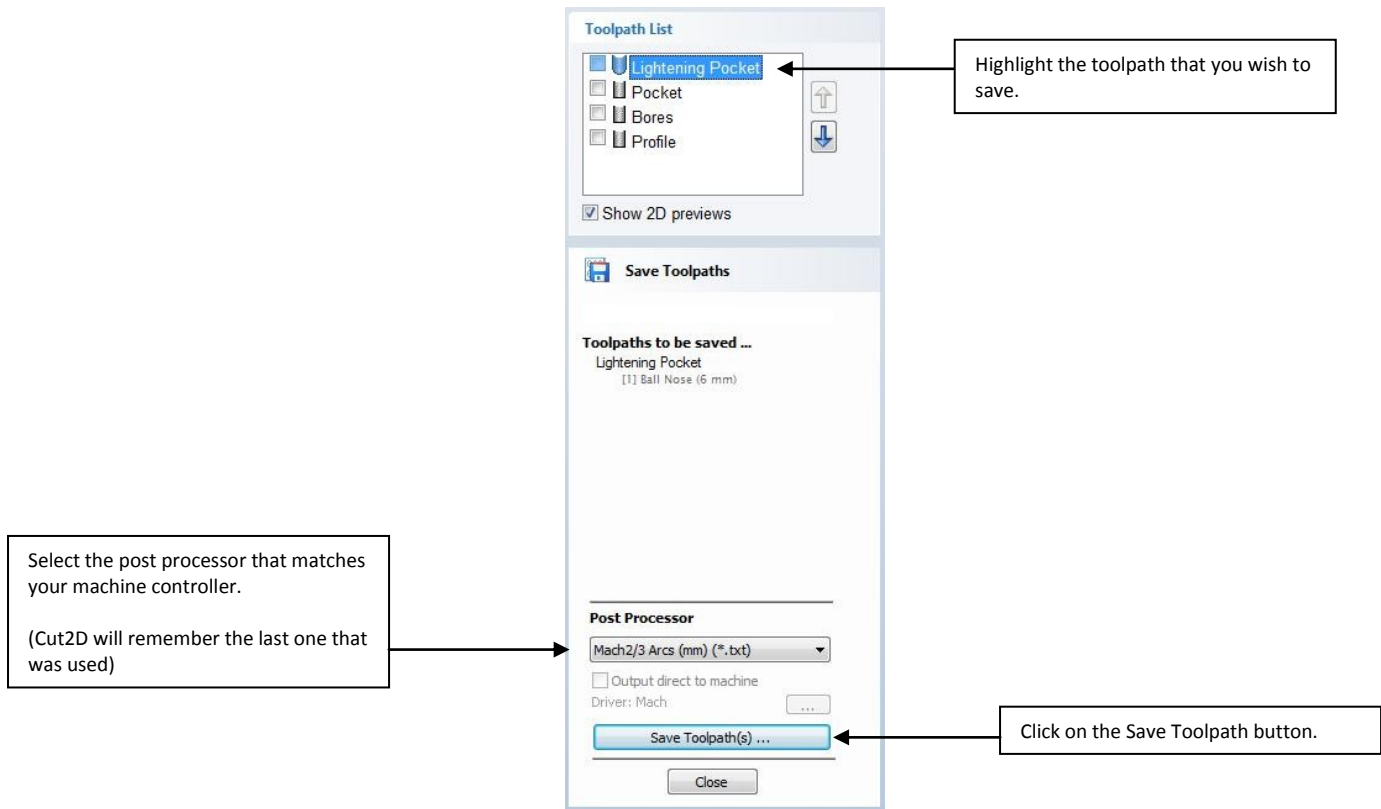

Figure 32. Save Toolpath form
19. From the pull-down list of postprocessors, select the appropriate one for your CNC machine as shown above in Figure 32.